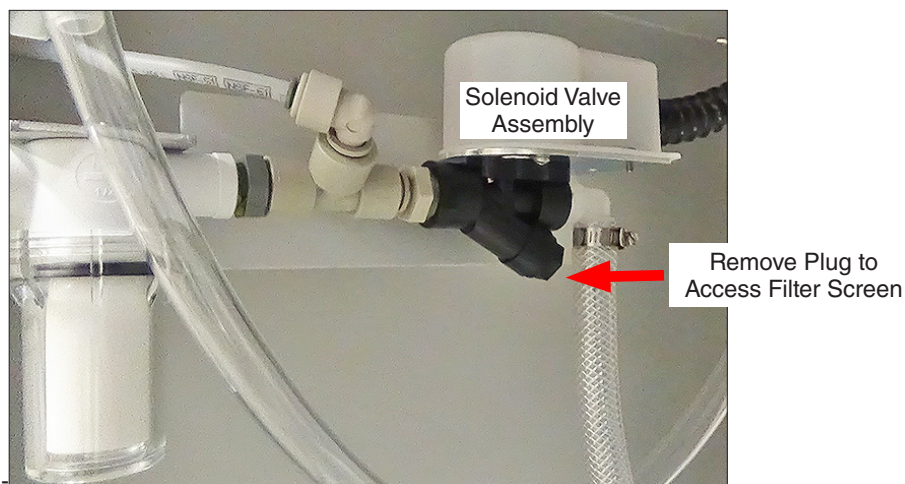

Figure 16.4b: Solenoid filter screen location.
- Inspect the solenoid filter screen (Figure 16.4b) every 6 months.